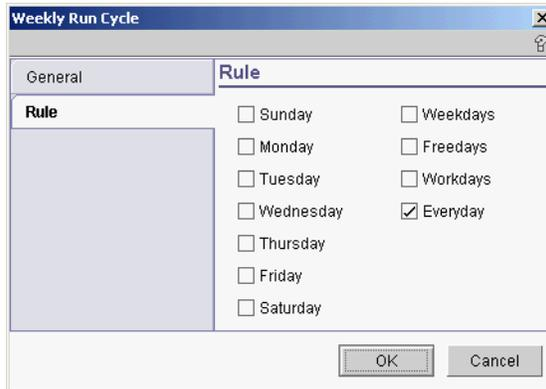

Figure D-15 Weekly Run Cycle: Rule
19. Click **Rule** in the left pane. The rule view is displayed, as shown in Figure D-15 on page 481.